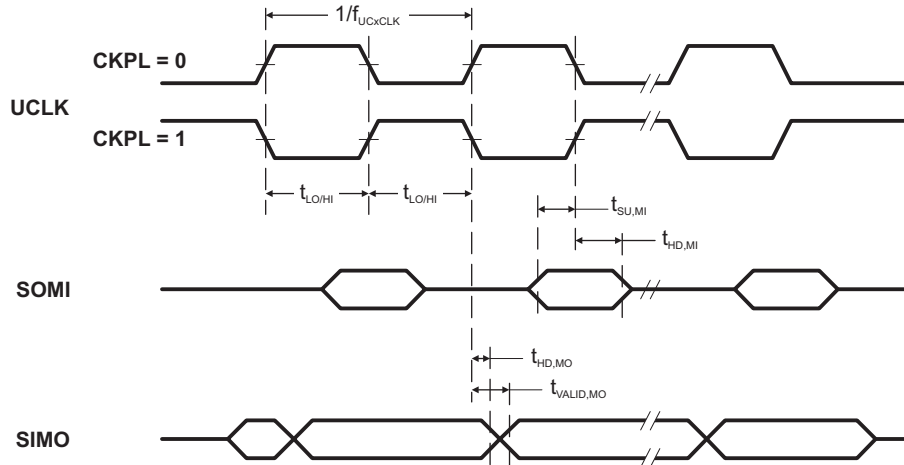
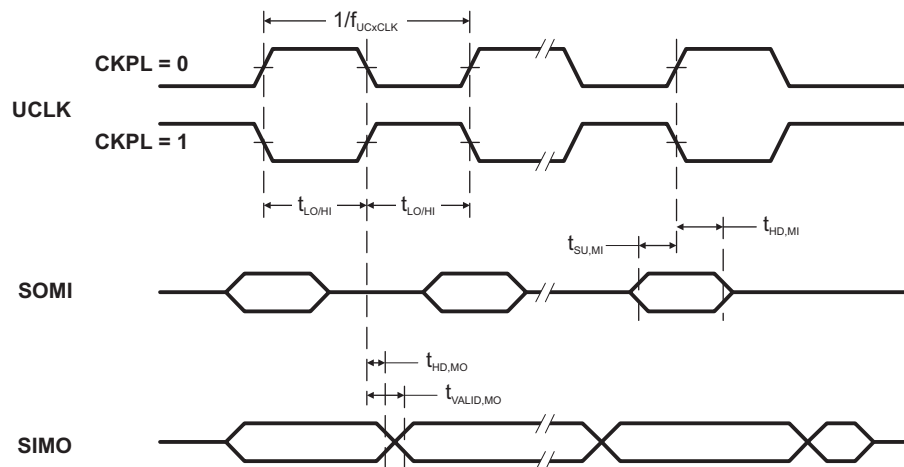

Figure 11. SPI Master Mode, CKPH = 0
Figure 12. SPI Master Mode, CKPH = 1
(see Note ⁽¹⁾, Figure 11 and Figure 12)
(2) Specifies the time to drive the next valid data to the SIMO output after the output changing UCLK clock edge. See the timing diagrams in Figure 11 and Figure 12.
(3) Specifies how long data on the SIMO output is valid after the output changing UCLK clock edge. Negative values indicate that the data on the SIMO output can become invalid before the output changing clock edge observed on UCLK. See the timing diagrams in Figure 11 and Figure 12.
- (2) Specifies the time to drive the next valid data to the SOMI output after the output changing UCLK clock edge. See the timing diagrams in Figure 11 and Figure 12.
- (3) Specifies how long data on the SOMI output is valid after the output changing UCLK clock edge. See the timing diagrams in Figure 11 and Figure 12.